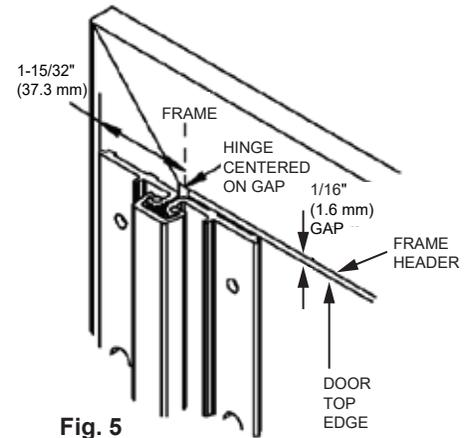

Fig. 5
- With door leveled and secured inside the frame, position hinge on the frame. Ensure top edge of the hinge is at least 1/8" (3 mm) below the frame's header or at the same level (See Figure 5) with the door's top edge or 1/32" (0.8 mm) below the door's top edge. The hinge edge must be perfectly vertical (plumb) and at the desired distance from the hinge's centerline or the gap's centerline.